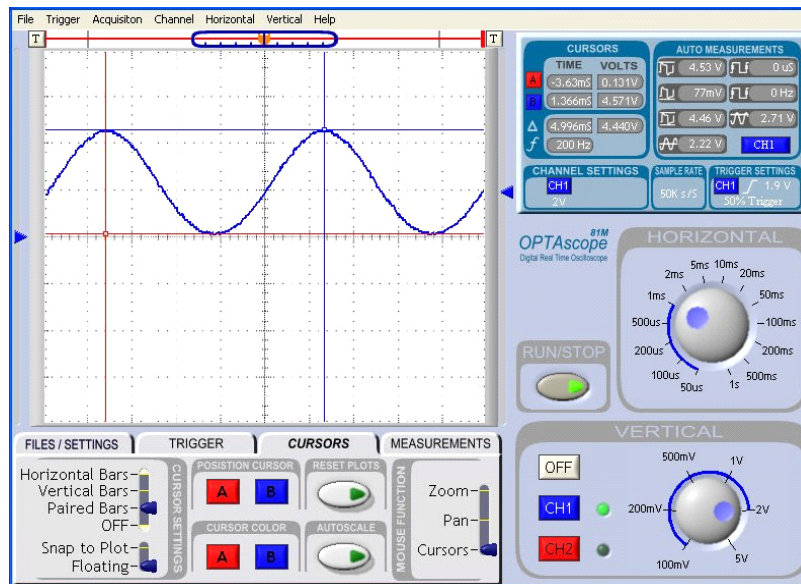

Figure 3-7: Measuring sine wave frequency and amplitude with the Paired Bars cursors
- ✓ Place the red vertical cursor at the peak at the left (Figure 3-7). Now place the blue horizontal cursor on the top of the signal and the blue vertical cursor on the peak to the right.